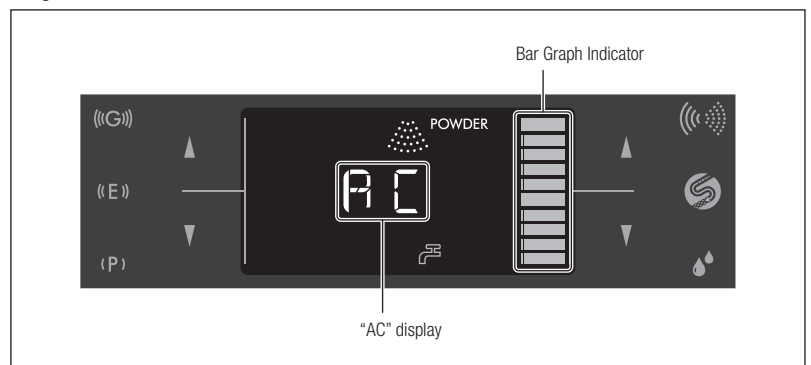

Fig. 37
- Auto-Cleaning takes about 45 seconds. "AC" is displayed on the LCD Panel during Auto-Cleaning and the approximate remaining time is displayed by the Bar Graph Indicator (Fig. 37).